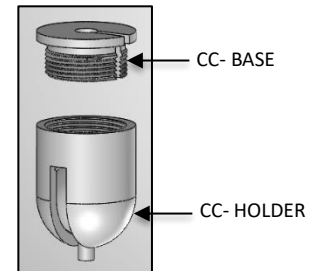

FIG. 18 - CEILING COUPLER ASSEMBLY
2. Dis-assemble the CEILING COUPLER into two components CC-BASE, CC-HOLDER as shown in FIG. 18.